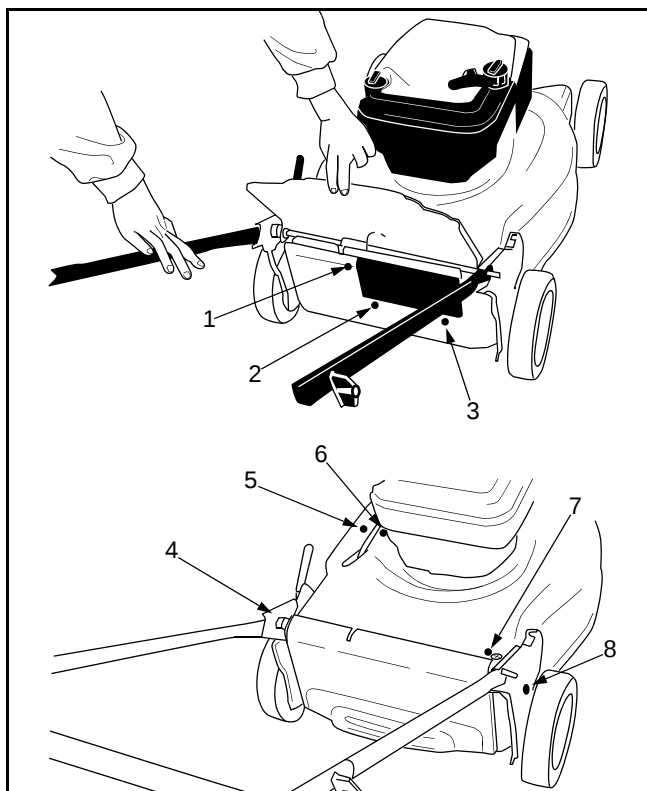

Figure 18
- Remove the rear hub caps, rear wheels and eight screws shown in Figure 18.
- Replace the eight phillips head screws that hold the large baffle in place. Refer to Figure 18.